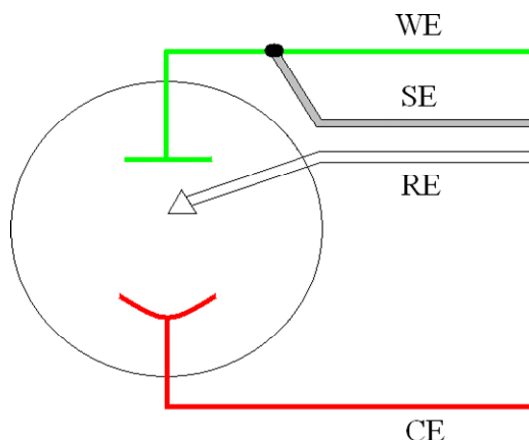

Figure 8. Three-Electrode Connection
b) General aqueous electrochemistry, corrosion experiments and most EIS experiments are connected using a three-terminal connection (Figure 8). The voltage at the working-sense is controlled relative to a stable reference electrode positioned in close proximity to the working electrode.